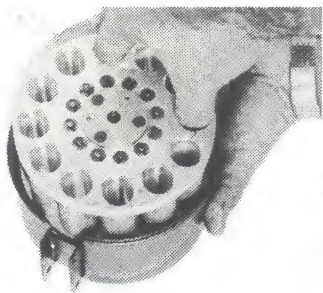

Fig. 16
8. Lift out magazine from inside cover assembly. (Fig. 16).
1. Place the magazine assembly into the magazine cover with the stop pins facing out towards you. (Fig. 16).